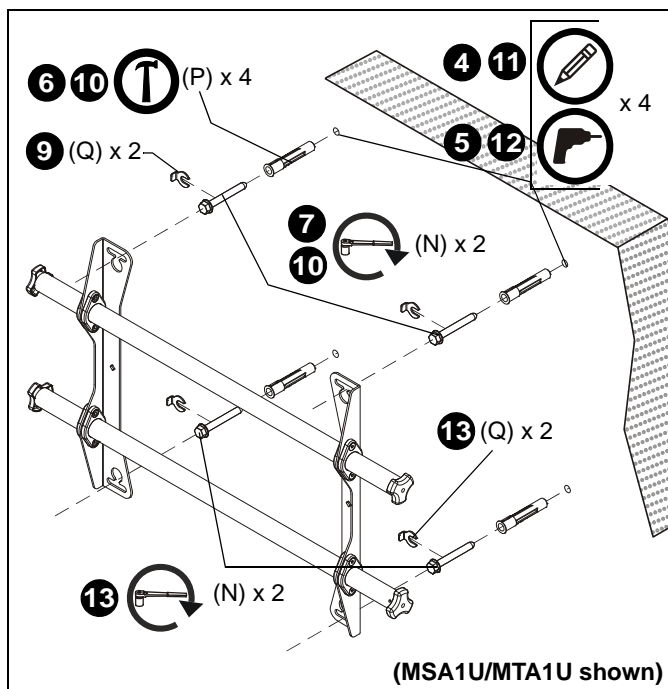

Figure 3
4. Using a level, mark the wall through both upper mounting slots. (See Figure 3)
6. Install an anchor (P) into each pilot hole using a hammer, making sure that the anchor is flush with the wall.
7. Partially install two 5/16 x 2-1/2" flanged lag bolts (N) into pilot holes but do not tighten to wall.
8. Hang mount (Z), aligning upper mounting slots over lag bolts and adjust side-to-side for proper location.
9. Place one slotted washer (Q) over each flanged lag bolt. (See Figure 3)
10. Tighten lag bolts to secure mount (Z) to wall at upper mounting slots.
11. Mark the attachment points for the lower mounting slots, making sure the attachment points are located on the studs. (See Figure 3)
12. Drill 3/8" x 3-1/2" (9.5mm x 88.9mm) pilot holes at markings for lower mounting holes. (See Figure 3)
13. Use two 5/16 x 2-1/2" flanged lag bolts (N) and two 5/16" slotted washers (Q) to attach the mount to the wall through the lower mounting holes. (See Figure 3)